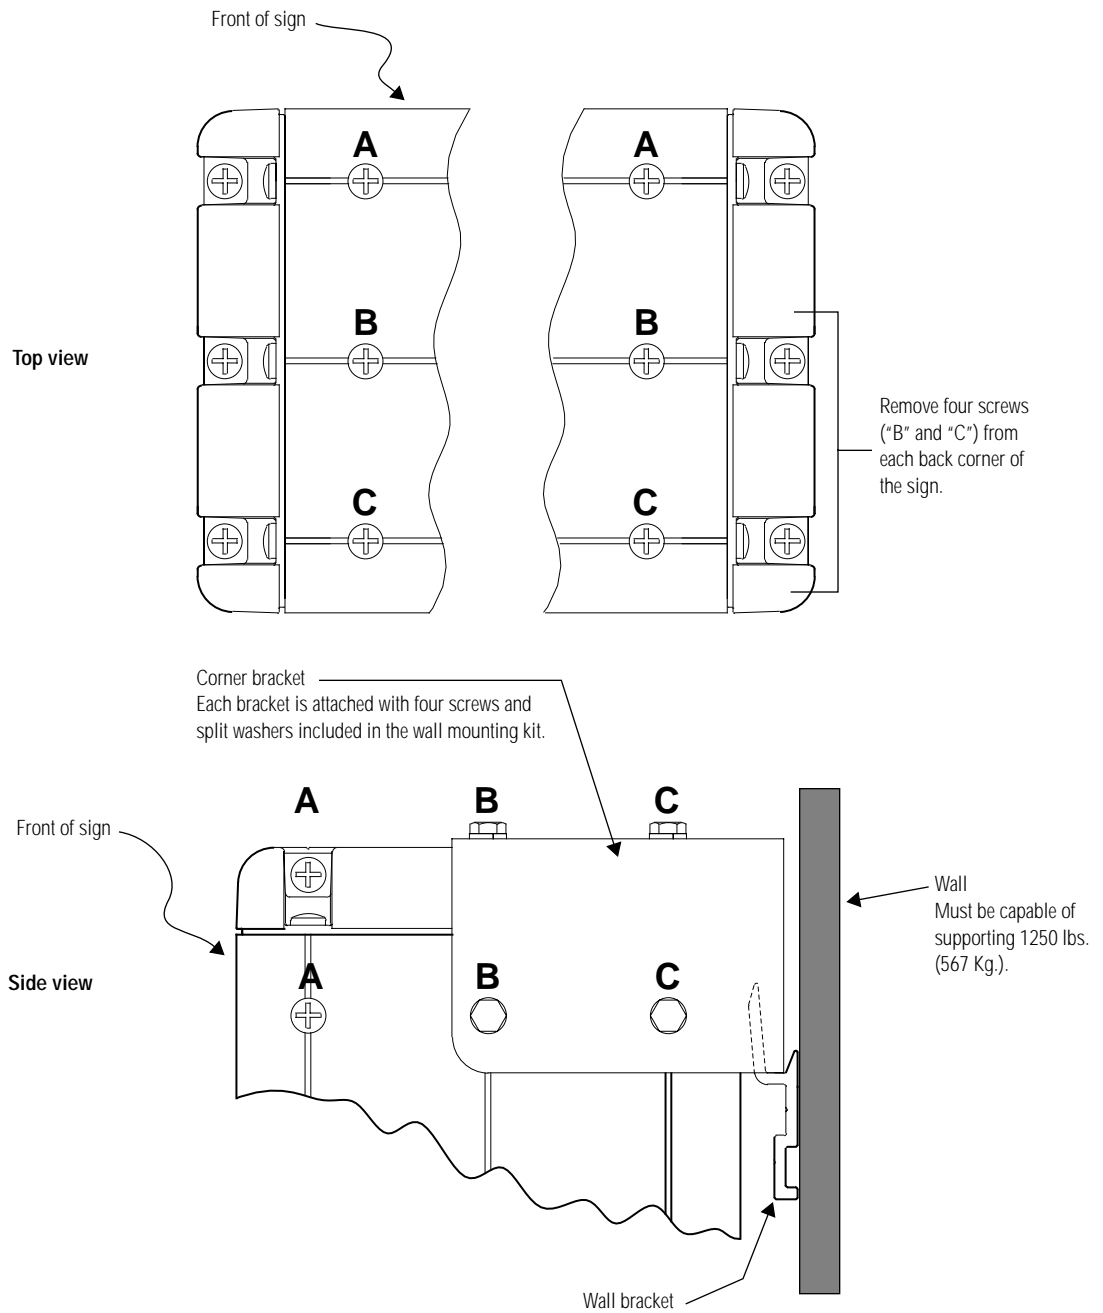

Figure 4: Wall mounting the sign
2. Remove the four screws from each back corner of the sign at "B" and "C" (see Figure 4):
3. Attach a corner bracket (included with the wall mounting kit) to the back corner of each side of the sign. Use four bolts with split washers (included with the wall mounting kit) to attach each bracket (see Figure 4). Torque each bolt to 50 - 60 foot-pounds (5.7 - 6.8 Nm).